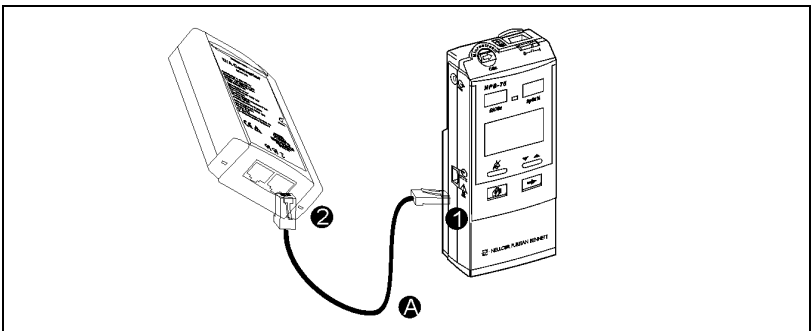

Figure 40. Connecting the Monitor to the D/A Converter
2. Insert the monitor cable (A) into the monitor's RS232 port (1 in Figure 40). This port, on the left side of the monitor, is marked with the symbols seen in Figure 39. Symbols on Handheld Monitor RS-232 Port, below.
3. Insert the other end of the monitor cable into the D/A Converter's communication power port (2 in Figure 40). This is the right-hand port when the D/A Converter is